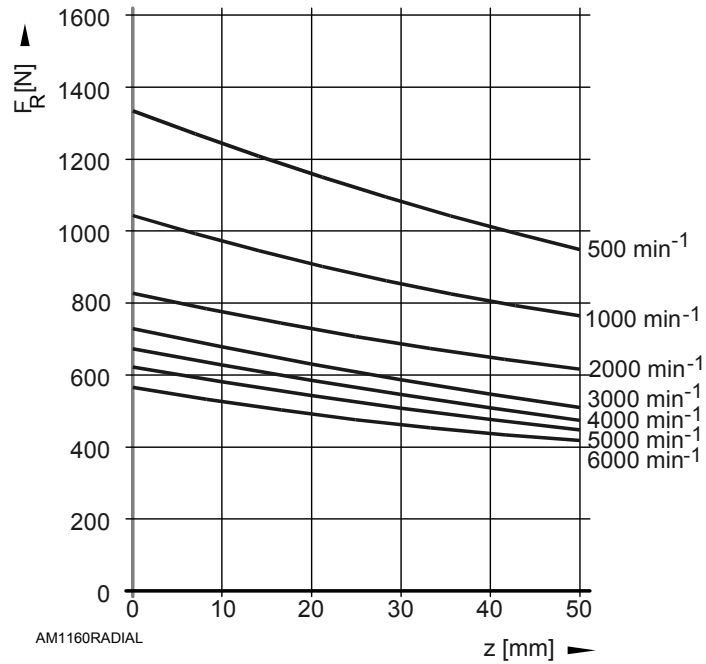

Figure 7-74, AM 1160 Series - Permissible Radial Force on the Motor Shaft (F_R)
- Use the first diagram to determine the maximum permissible radial force F_R over the distance z and average speed (for example, refer to Figure 7-74, AM 1160 Series - Permissible Radial Force on the Motor Shaft \(\$F_R\$ \)).
- The combined load F_{com} must not exceed the permissible radial force F_R for the first diagram (for example, refer to Figure 7-74, AM 1160 Series - Permissible Radial Force on the Motor Shaft \(\$F_R\$ \)).
- Figure 7-74, AM 1160 Series - Permissible Radial Force on the Motor Shaft \(\$F_R\$ \)